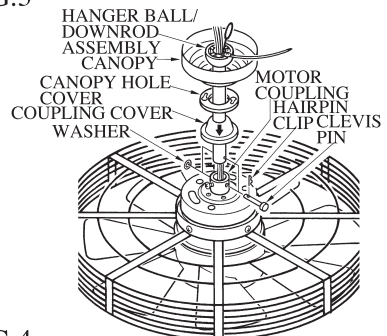

FIG.4
1. Securely attach the hanger bracket to the outlet box by washers and screws supplied. Connect white wire from ceiling to white wire from receiver with wire nut. Connect black wire from ceiling to black wire from receiver with wire nut. (see fig.4)